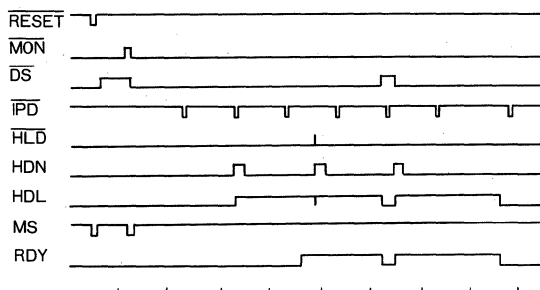

Fig.17 吸引タイプ
(3) HEAD LOAD/(AUTO LOAD) (Table4, Fig.17, 18参照)